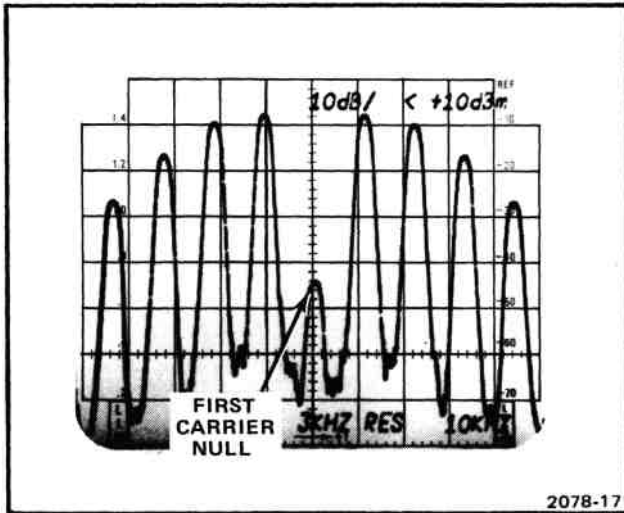

Fig. 2-16. Bessel null technique of determining 100% modulation.
The 1405/spectrum analyzer system provides a very accurate method of calibrating the aural modulation monitor, using the Bessel Null technique. With this technique, a specific frequency (10.396 kHz for 25 kHz deviation) will cause a distinctive and undisputable carrier null at 100% modulation (see Fig. 2-16).
2. Advance the 10.396 kHz AMPLITUDE control until the first carrier null occurs (see Fig. 2-16). At the first carrier null, the transmitter is being modulated 100% and the fm frequency deviation is 25 kHz.